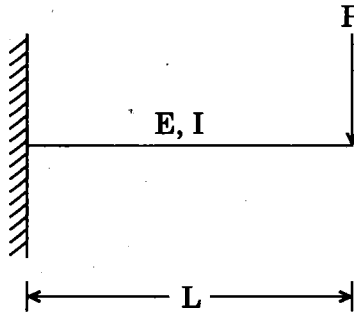

Figure 3
6. Determine the vertical deflection at the tip of the cantilever shown in Figure 3.